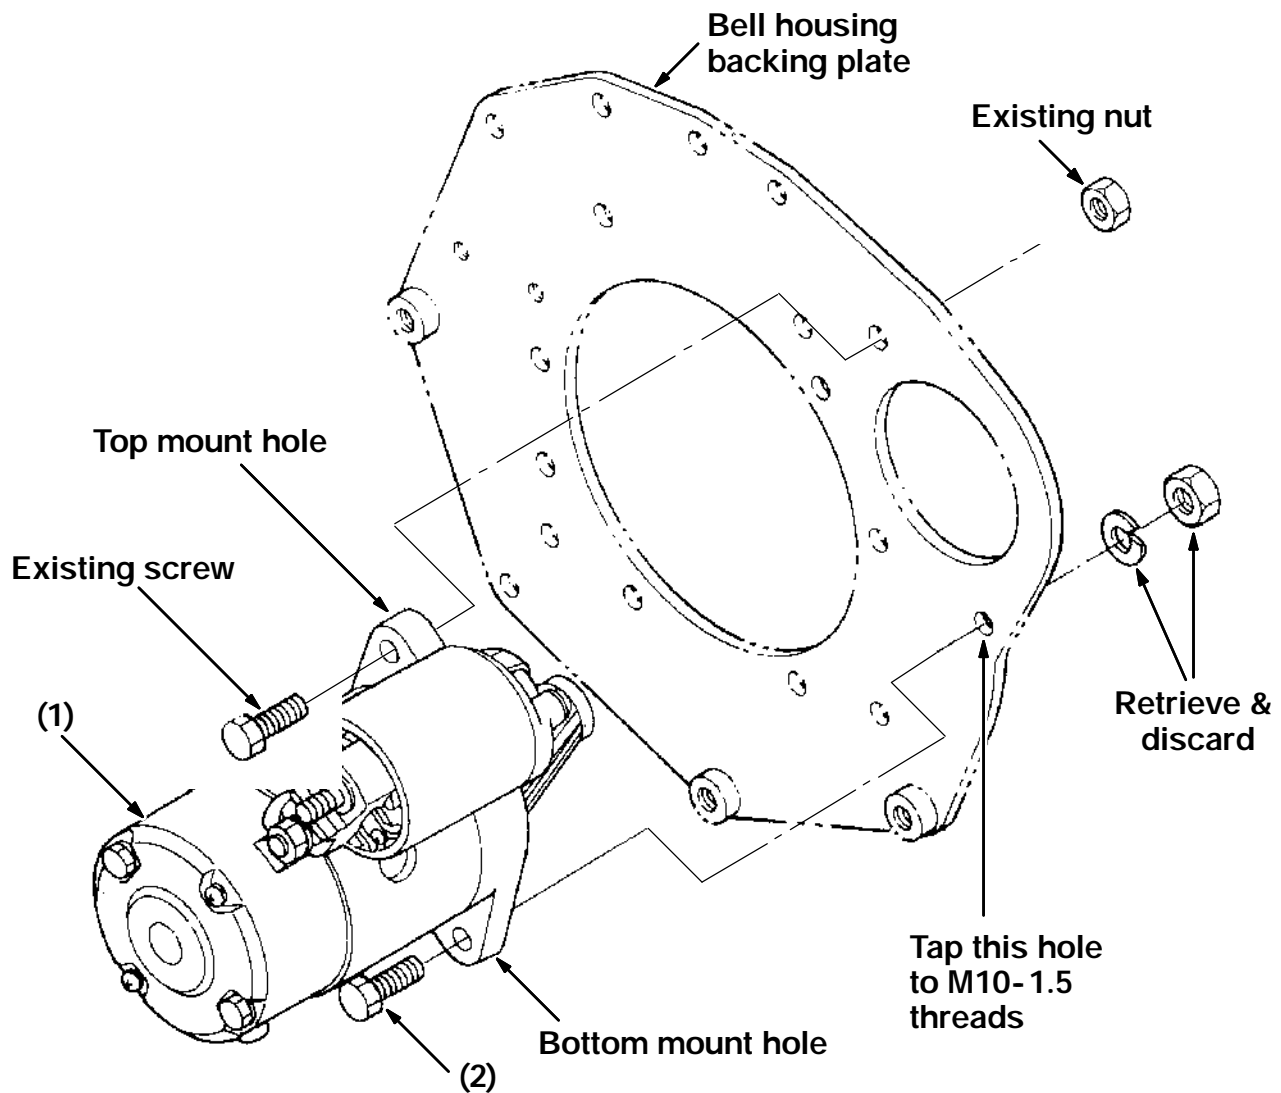

FIG. 1 - Replacement of Starter Assembly on Model 6400 Liquid-Cooled Gas and LPG Machines
(Refer to FIG. 1)
4. Remove and retain top mount screw and nut. (Refer to FIG. 1)
5. Remove and discard bottom mount screw. The nut and split washer will fall inside the bell housing when screw is removed. Retrieve and discard nut and split washer. (Refer to FIG. 1)
6. Tap the bottom mount hole in backing plate to M10-1.5 using thread tap (3) provided. (Refer to FIG. 1)
7. Install the new starter (1) by placing the new screw (2) through the bottom starter mount hole and into the tapped hole. Use the existing screw and nut retained in step 4 in the top starter mount hole. Tighten all hardware. (Refer to FIG. 1)